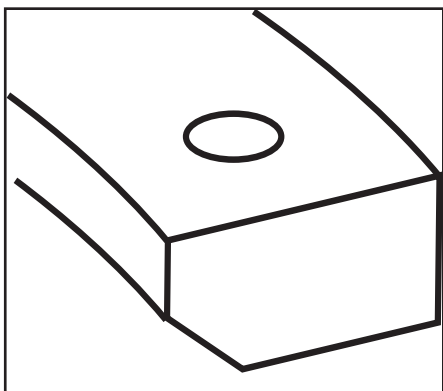

Figure 1
- b. Second compression ring has a darker, charcoal gray finish and slight bevel along inner surface. This ring has a dot. See Figure 1. Install in second or middle groove with dot up.
- ii. Plain cast ring usually goes in second groove. Plain cast type is usually a reverse torsion ring distinguished by an inside diameter bevel on one side of ring and a "dot" or oversize mark on other side. **See Figure 1** above. If two cast iron compression rings are supplied in a set, check to see if one is reverse torsion style ring with dot and bevel. Reverse torsion style ring always goes in second groove with dot up if present.